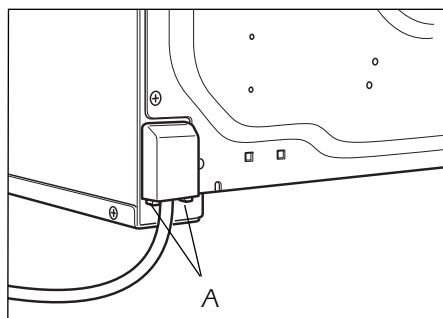

Fig. 5
- *Unhook the terminal board cover by inserting a screwdriver into the two hooks "A" (Fig. 5).*